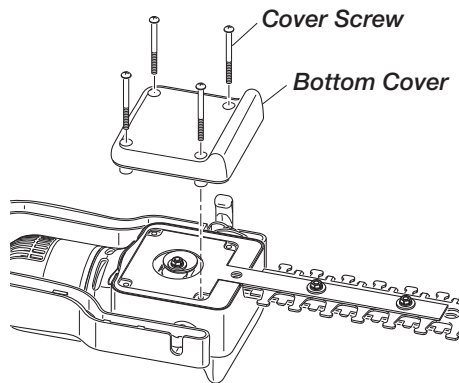

Figure 17 - Removing Bottom Cover from Trimmer Head
2. Place pole trimmer upside down on workbench and remove the four (4) bottom cover screws. Lift bottom cover off (see Figure 17).
10. Replace the bottom cover and secure with the 4 bottom cover screws removed in step 2 (see Figure 17). Tighten screws securely.